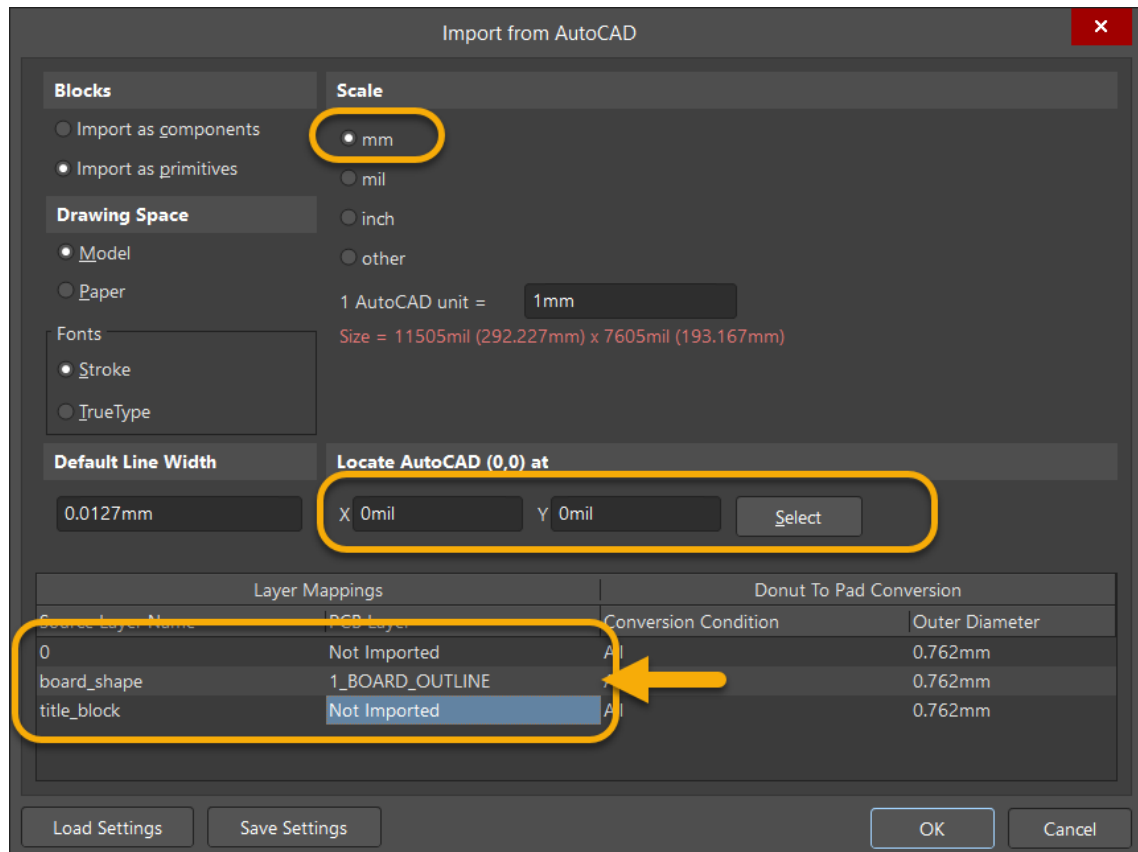

Figure 12. Import DXF dialog
41. The *Import from AutoCAD* dialog box will open. Change the settings as shown in Figure 12.